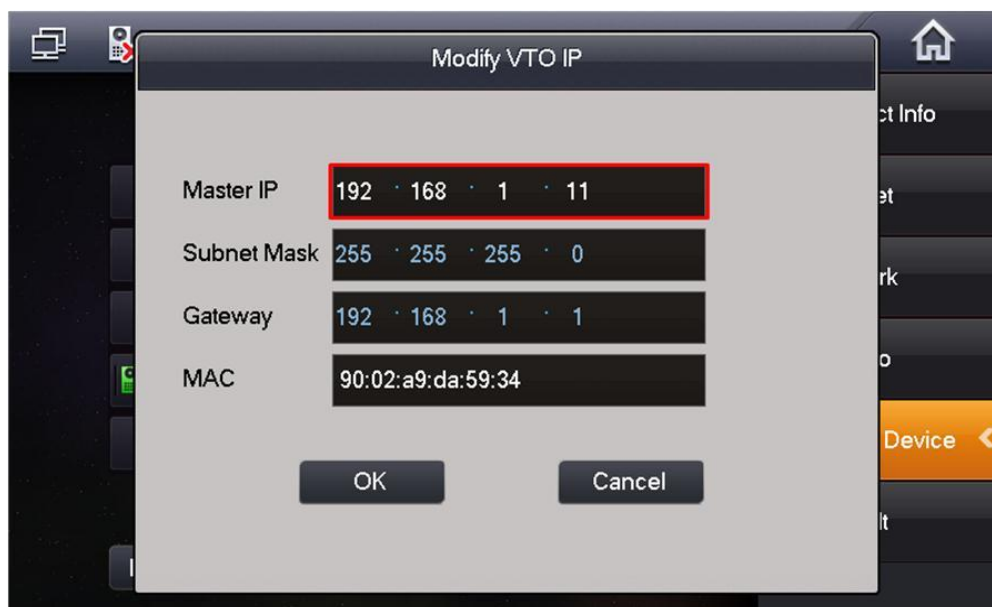

Figure 2-14
- b) Change VTO IP address as 192.168.1.11. See Figure 2-14.